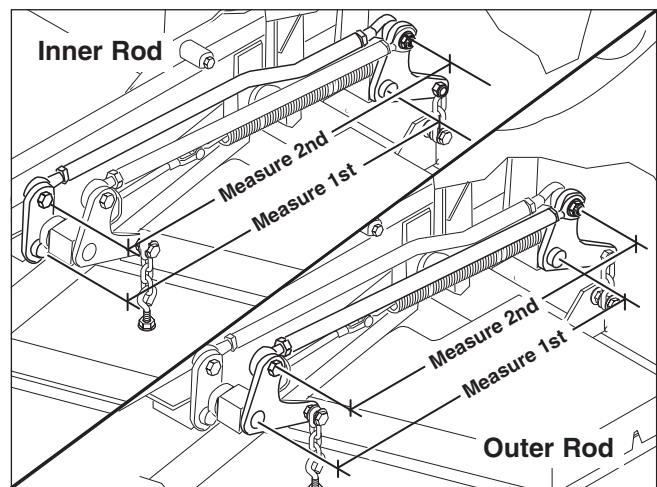

Figure 46. Measure the Inner & Outer Lift Rods
2. To check the inner lift rod timing, measure and record the distance between the inner lift pivots and the inner rod pivots. Repeat for other side of unit. See Figure 46.
3. To check the outer lift rod timing, measure and record the distance between the outer lift pivots and the outer rod pivots. Repeat for other side of unit. See Figure 46.